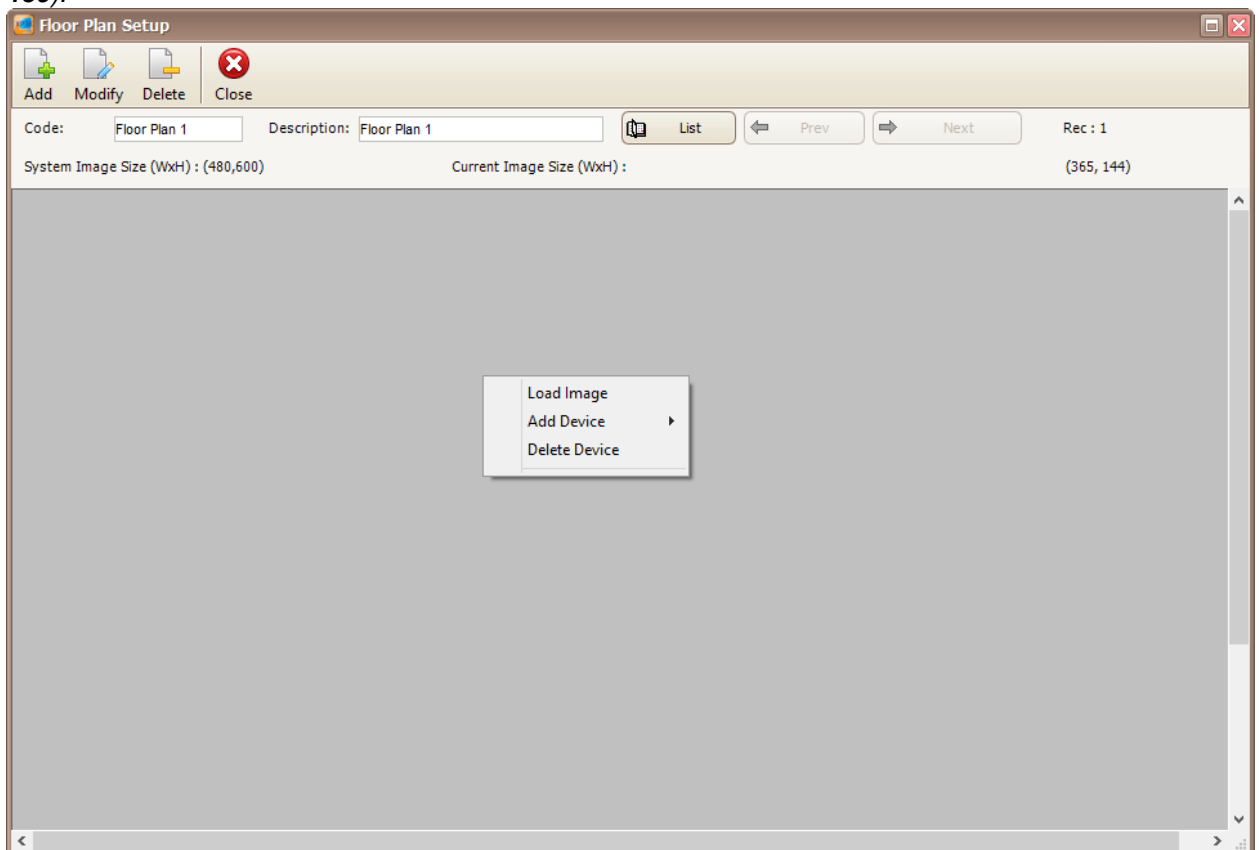

Figure 159 - Load Floor Plan
5. Right click on the blank section in Floor Plan Setup window and click Load Image (Refer **Figure 159**).